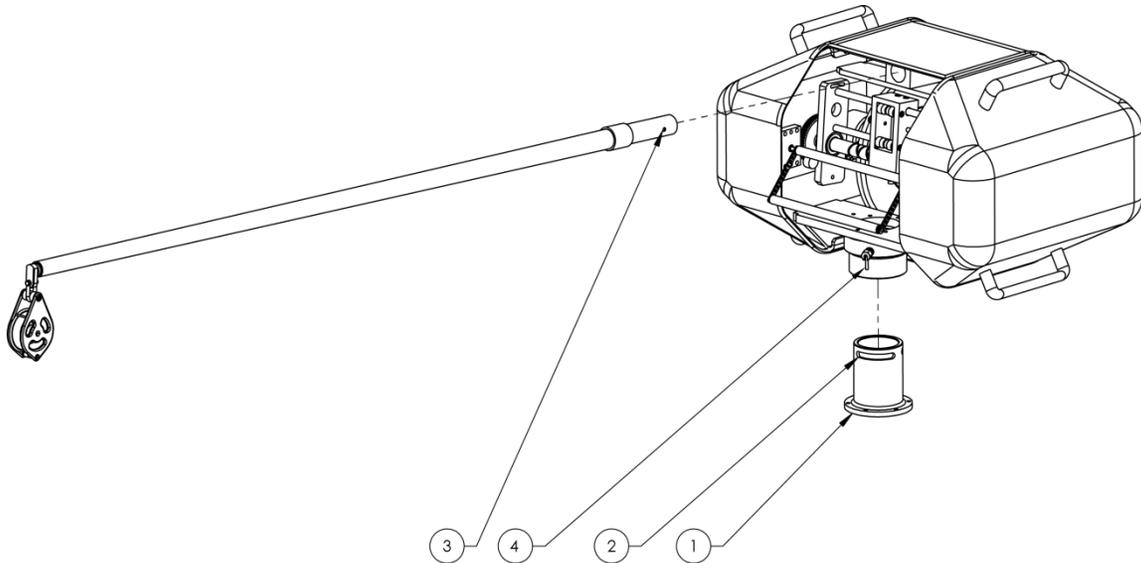

Figure 24. Installing the Winch on the Pipe Mount
3. Install the davit and retaining pin. Block is oriented downward as shown in Figure 24.